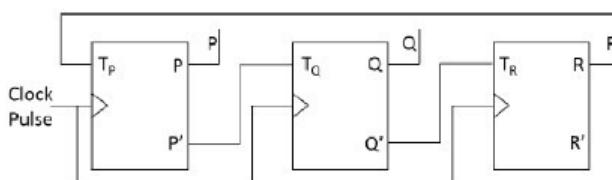

Fig. 6.4
3. Consider a 3-bit counter, designed using T flip-flops, as shown below in Fig. 6.4. Assuming the initial state of the counter given by PQR as 000, what are the next three states? (GATE CS 2021)